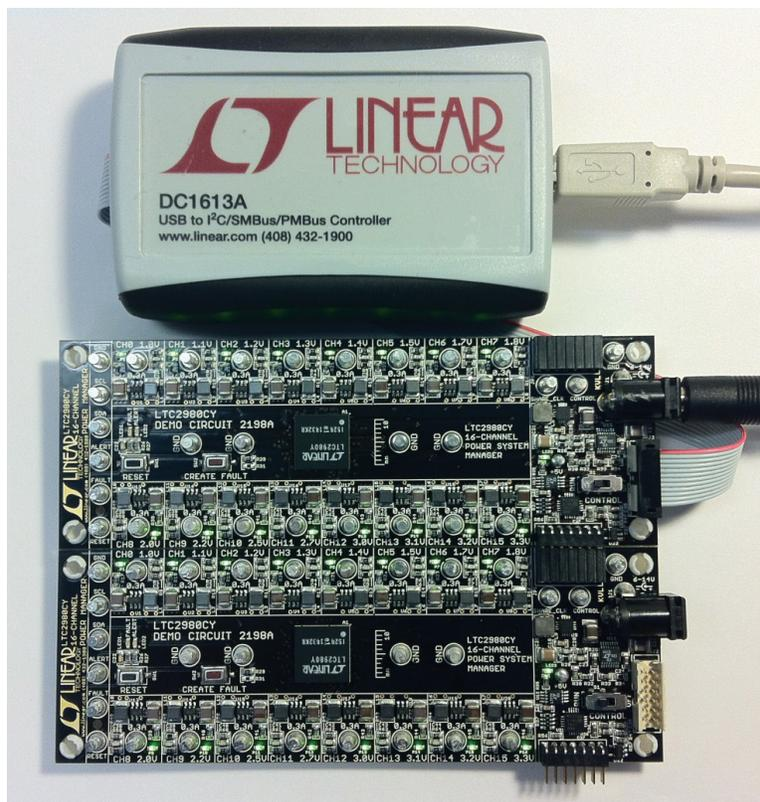

Figure 12. Array of Multiple DC2198A Demo Boards
3. Plug in the +12V_{VIN} power into one of the boards as shown in Figure 12. Only one +12V power source is allowed.